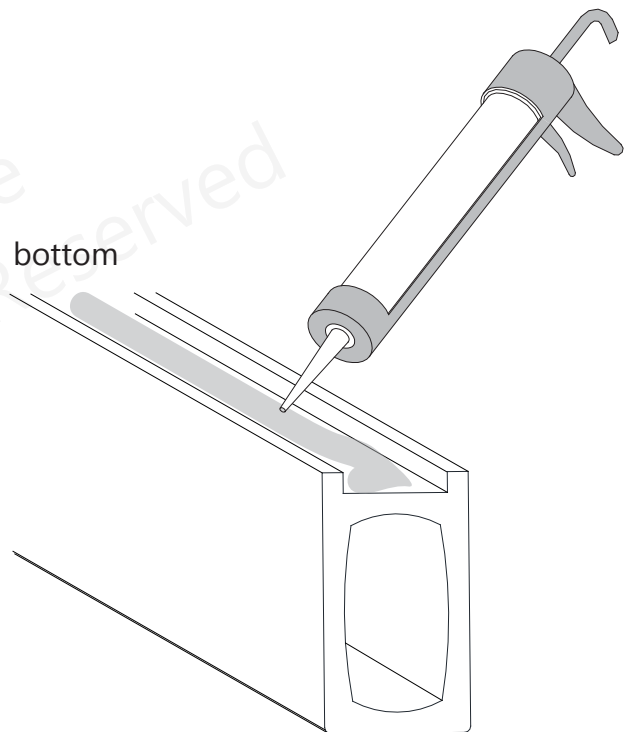

Fig 4
4. Apply silicone into the groove along the bottom surface of the **Bottom Rail (#21)**. **(Fig 4)**